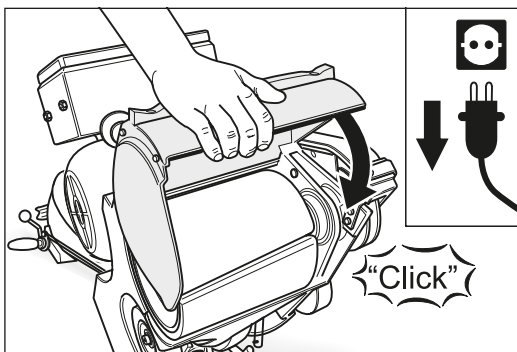
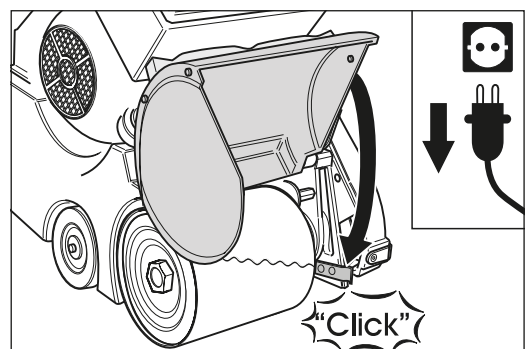

Fig. 35 Swing the drum cover back down to close it. **Make sure you feel it lock into place!**
Fig. 40 Swing the drum cover back down to close it. **Make sure you feel it lock into place!**
- 12 Close the housing opening by swinging the drum cover back downwards. **Make sure you feel the cover lock into place (fig. 35)!**
- 6 Close the housing opening by swinging the drum cover back downwards. **Make sure you feel the cover lock into place (fig. 40)!**
(➔ *Section 5.2, Changing the abrasive*, fig. 35 and fig. 40).